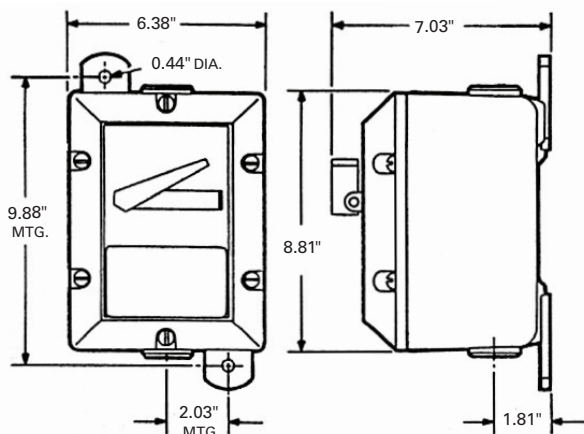

Figure 1. Dimensions
1. Select a mounting location that will provide suitable strength and rigidity for supporting all contained wiring and control devices. Figure 1 shows the mounting dimensions of EMN Series enclosures. Drill two 0.44 inch (7/16") mounting holes.